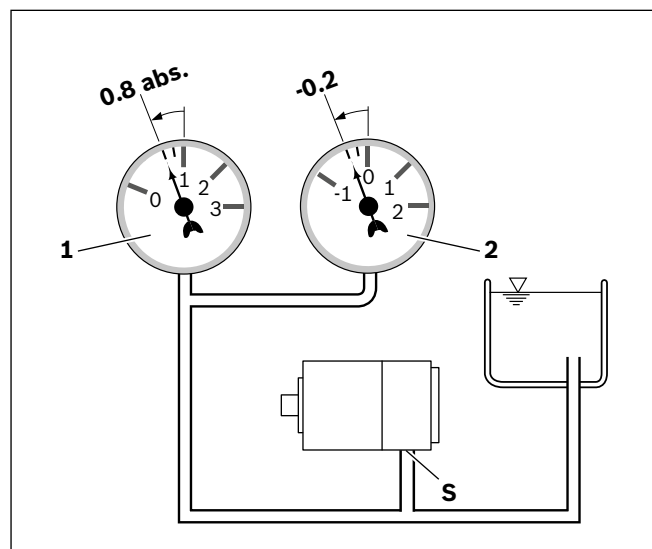

Fig. 4: Suction pressure for axial piston pump
- ▶ Make sure that a minimum suction pressure of 0.8 bar absolute is present at port **S** during operation for all installation positions and installation locations of the axial piston pump; see Fig. 4. Please refer to the product-specific data sheet for further pressure values and conditions.